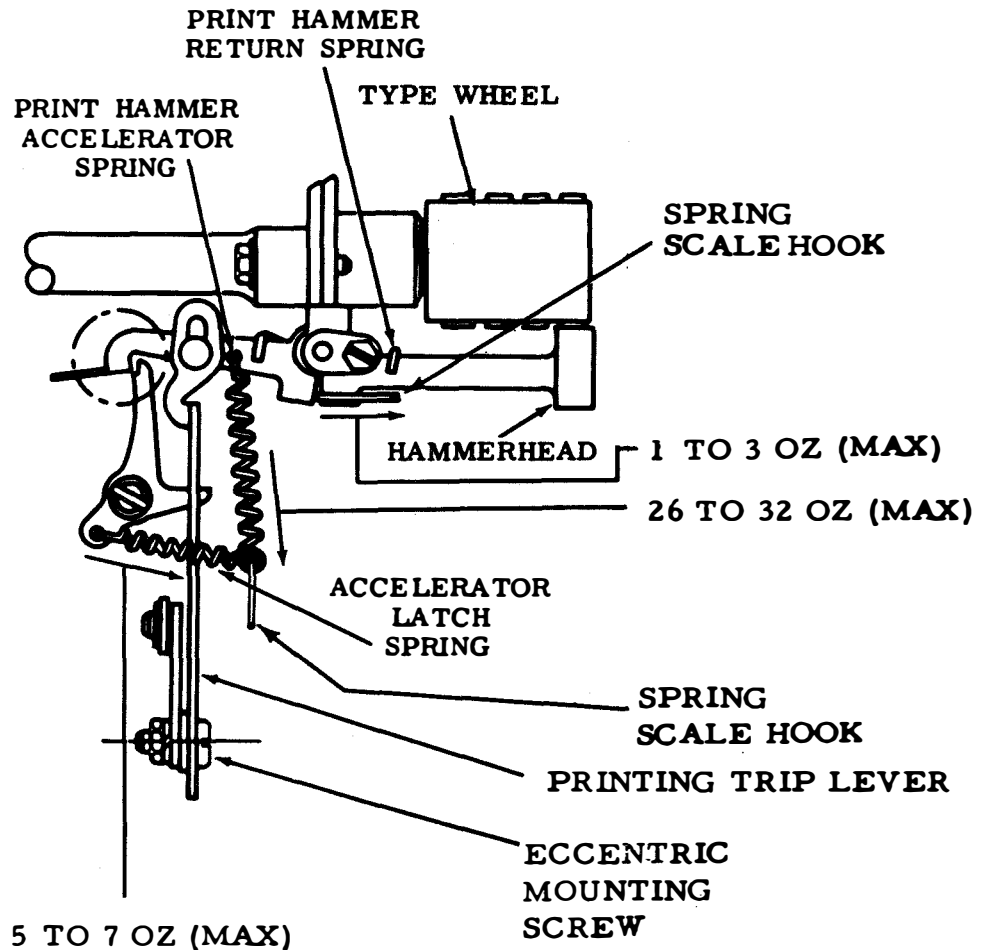
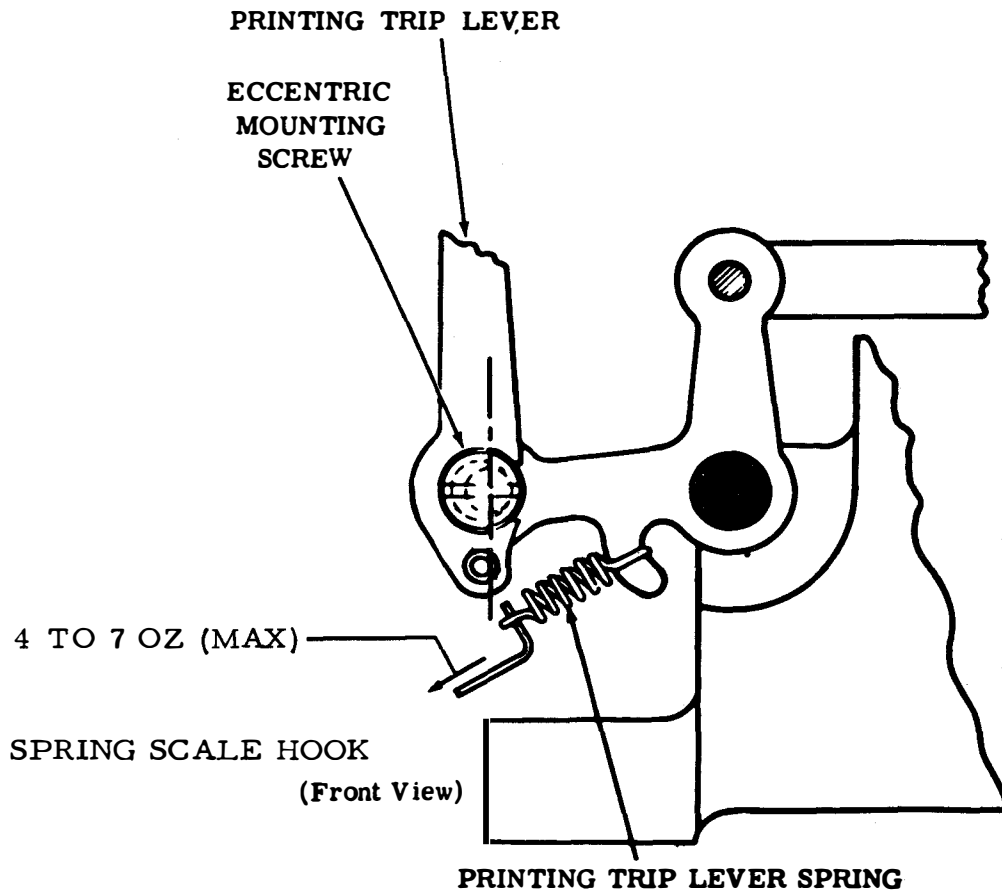

Figure 6-94. Print Hammer Return Spring, Accelerator Spring, and Accelerator Latch Spring - Left Side View
Figure 6-95. Print Hammer Trip Lever Spring
(a) Refer to figure 6-94.
(35) Print Hammer Accelerator Spring. Adjust as follows:
- (a) Refer to figure 6-94.
(36) Print Hammer Accelerator Latch Spring. Adjust as follows:
(37) Print Hammer Trip Lever Spring. Adjust as follows:
- (a) Refer to figure 6-95.